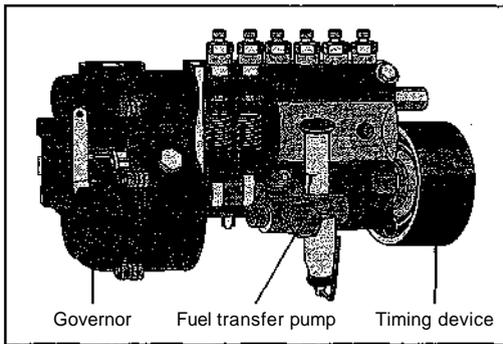
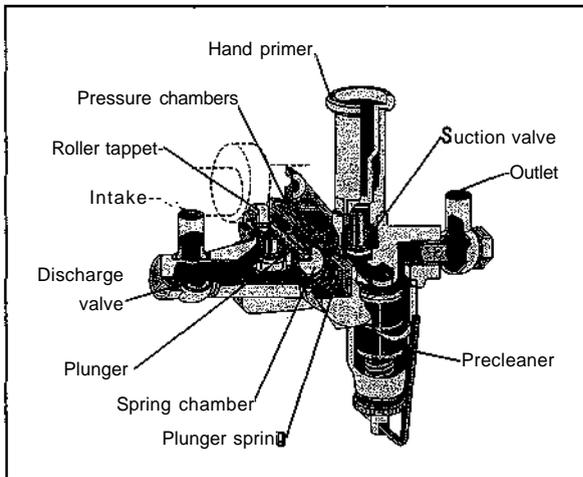

Figure 7-5:
Figure 7-6:
4. The fuel injection pump is truly the heart of the diesel engine. (See Figure 7-5.) It sends fuel to a series of mini-pumps called fuel transfer pumps, each of which is responsible for delivering fuel at a pressure of over 1,000 psi (pounds per square inch) to one of the fuel injector nozzles. (See Figure 7-6.)
The fuel injection pump's brain is the *governor* (refer to Figure 7-5), which has a very important job: It controls the exact amount of fuel that's sent from each mini-pump to the nozzles and makes sure that the engine doesn't go so fast that it damages itself with excessive heat and pressure. Some governors are built right into the injection pump; others work off the crankshaft or the pump's timing gear; still others measure the speed of the air coming into the engine. All governors are affected by the pressure of your foot on the accelerator, the temperature in the cylinders, the altitude, the speed of the vehicle, and the load that the vehicle is carrying.